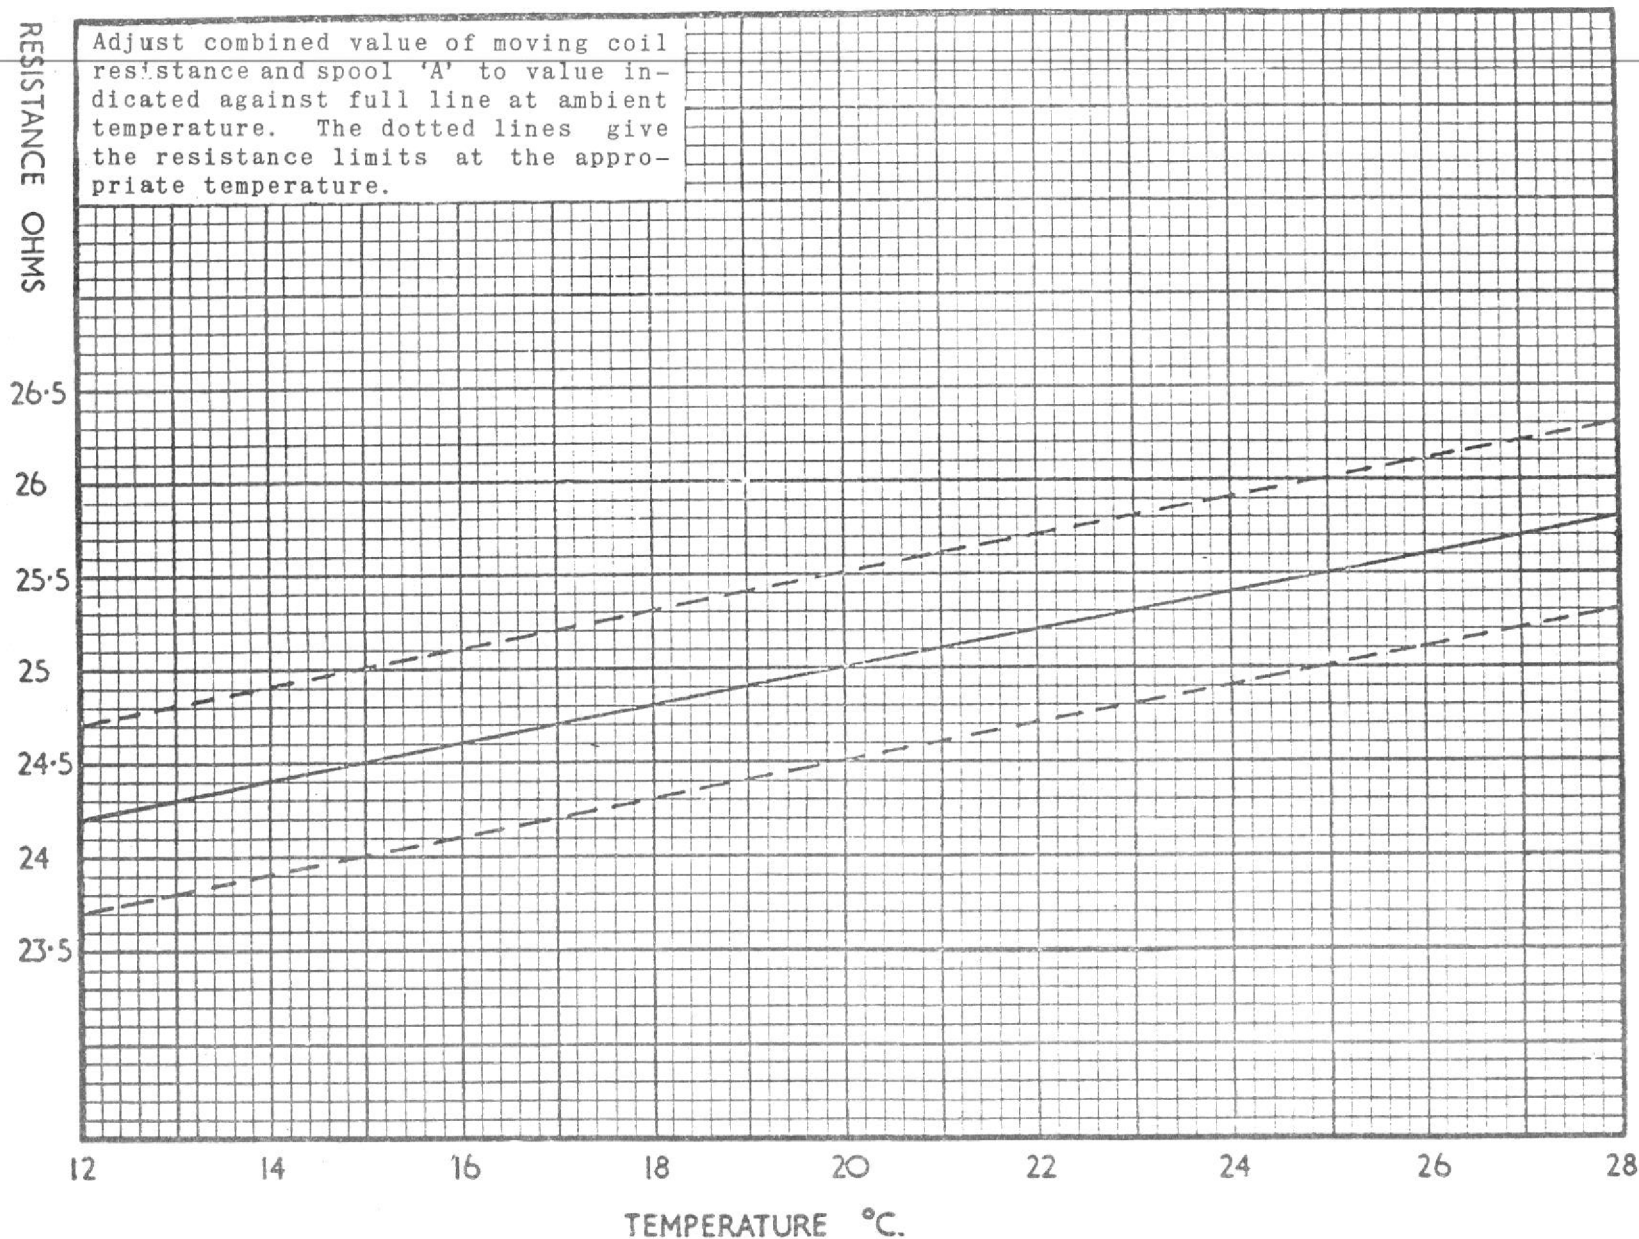

Fig. 4a. Temperature resistance chart (25 ohms, or above, external resistance).
- (1) Check the resistance of the moving element. If the resistance is less than 19 ohms at 20°C, build out with Spool A, to a value of 19-21 ohms at 20°C. The value of Spool B must be as follows:
*NOTE: If the ambient temperature is other than 20°C use the chart (Fig.4a) to obtain the value of resistance to which the indicator must be adjusted to obtain the correct value at 20°C.*
- (c) If Spool A has been fitted, do not disturb this spool unless the movement complete or the thermistor is being renewed. If either of these components is renewed, remove Spool A and follow the procedure given at (1) (a) and (b).
- (2) Connect the thermistor in circuit across Spool B.
- (3) Adjust spool C as follows.